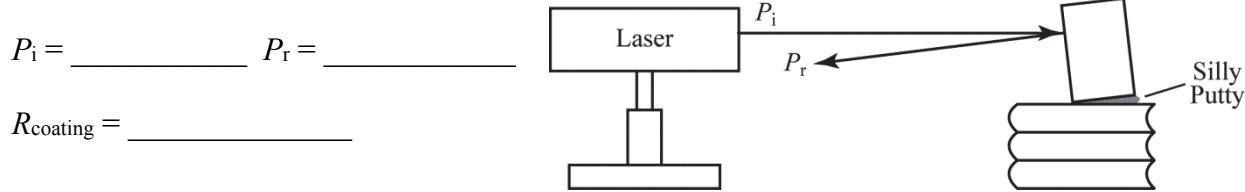

Figure 23 – Front Surface Mirror Power Measurements Set-up
1. Using the V-Clamp mount for laser (LI-2), a 1.5" post (LI-5), and a 1.5" post holder (LI-4), mount the laser diode module (LI-1) to the optical breadboard (LI-3). Turn the laser diode module on. Most mirrors on the walls of bathrooms are rear surface mirrors. Using the 25 mm mirror (LI-6), identify the coated surface. Using books (LI-8) and silly putty (LI-9), position the mirror, such that the coated surface is facing the laser, at an angle where the fiber optics digital photometer (LI-7) can be used to measure the reflected power P_r . Refer to Figure 23.